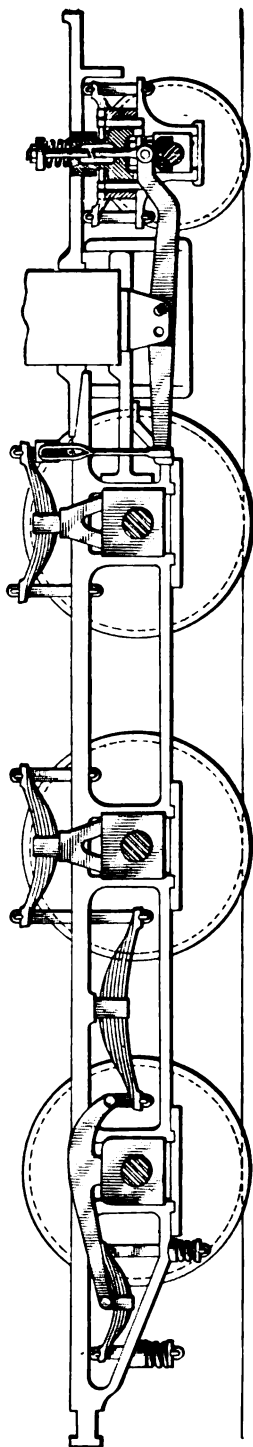

FIG. 37.
**75. First Method.**—In case the front pin, or “Aleck bolt,” of a long truck equalizer on a mogul engine should break, raise the front end of the engine above its normal position (by means of jacks or otherwise) so as to raise the frames with respect to the front driving boxes, thus easing the tension of the front driving springs; next, jack up the front end of the equalizer and place a hardwood block, or, better still, a truck brass, if one can be obtained, on top of the truck axle and allow the end of the equalizer to rest on it, as shown in Fig. 37. This will cause the truck to carry its share of the weight as usual. The brass should be kept well oiled, however, to avoid undue heating. If a hardwood block is used, it is best to gouge out, if possible, the shape of the axle, so as to increase the bearing surface, and a flat piece of iron should be placed on top of the block between it and the equalizer. If the axle is kept well oiled where the brass rides on it, but little trouble will be experienced.